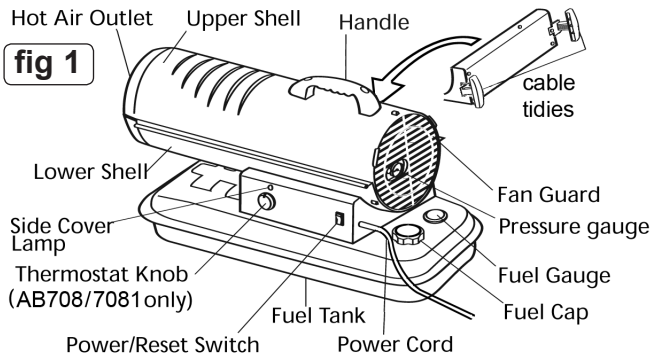

fig 1
- 3.3.1 Mount the cable ties onto either end of the panel on the other side of the heater from the main control panel, as shown in fig.1. Hook the two tabs on each moulding into the holes at either end of the panel. The tongue on each moulding should now be lying on the face of the panel. Secure each moulding in place with a screw through the tongue and into the ready made holes in the panel.